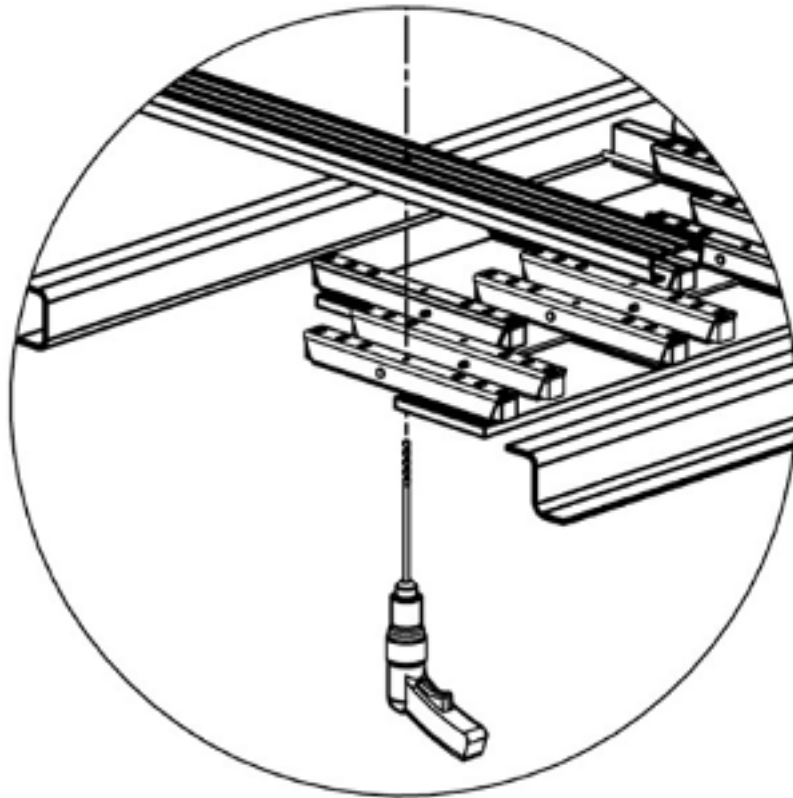

Figure 29
b. Use a 5/16" [8mm] extension bit to drill up through the aligning holes in the bottom of the outer shoes of each cross drive (six places=two per cross-drive). Note that this hole is the only hole through the bottom of each shoe and that there are no threads in the corresponding hole in the nut bar. (Figure 29)